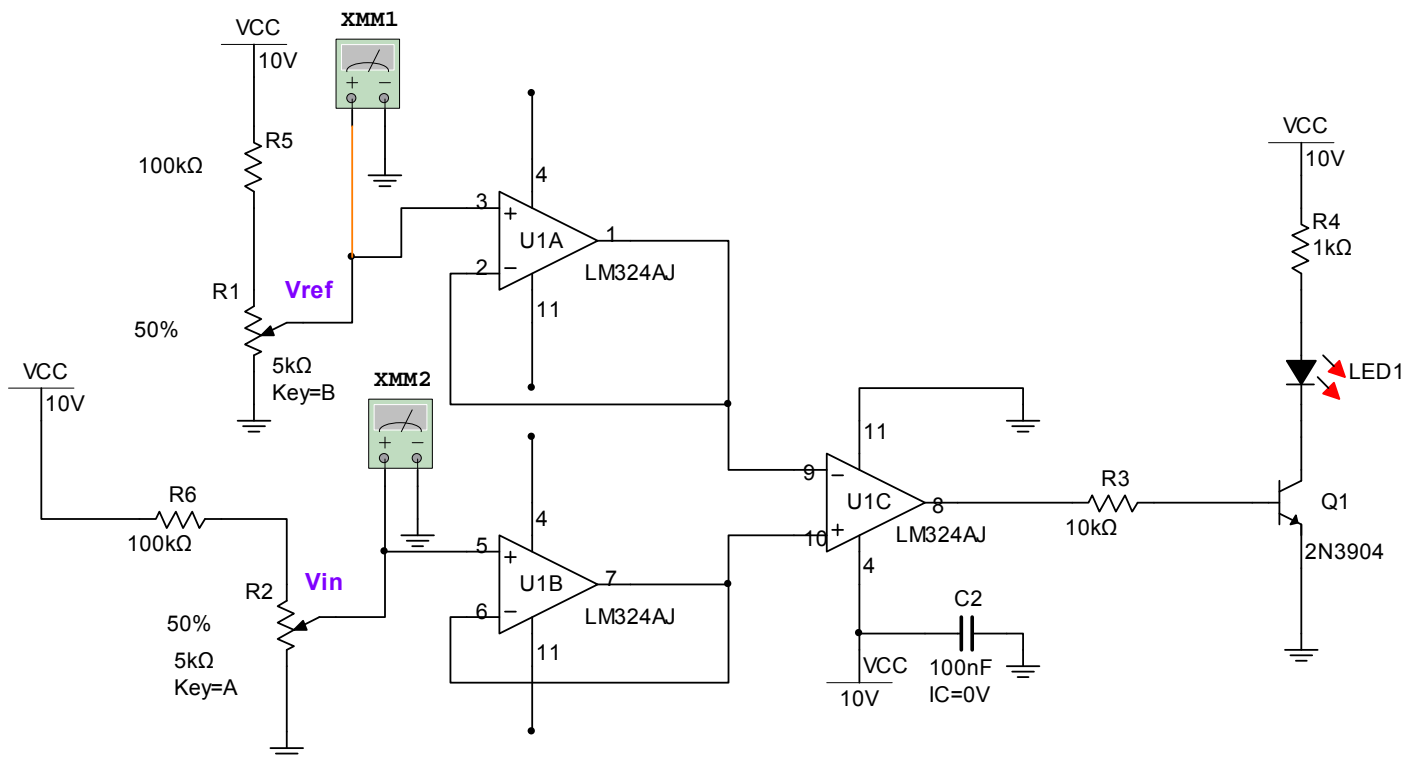

Figure 5-5. Temperature sensor
With this information we can design the respective circuit that is in Figure 5-5.
To simplify the design we are going to use the quad op-amp LM324AJ. Notice that we are using three sections out of the four that this IC has. Each section has its own power supply terminals (pins 4 and 11); however, we need to connect the power supplies to one section only as shown in U1C in Figure 5-5. At this point you should be quite familiar with some portions of the temperature sensor depicted in Figure 5-5. It is appropriate then that you are able to answer the following questions.
1. Build the circuit indicated in Figure 5-5 using Multisim. Choose 2% increment for the potentiometers
Now that you have tested the circuit to satisfy the problem statement using Multisim, it's time to hardwire the circuit depicted in Figure 5-5 using real components. However, as you did in Labs 1 and 2, before continuing you are going to generate the list of components and the equipment that you need to complete this task.
2. What kind of circuit do we need to detect the sensor output and trip an alarm? (**Hint:** look at the temperature sensing circuit design in figure 5-5. How should this design be modified for this application?)
4. How do we deal with the electrically noisy manufacturing environment and how does it affect our circuit design? (**Hint:** look at the temperature sensing circuit design in figure 5-5. How should this design be modified for this application?)